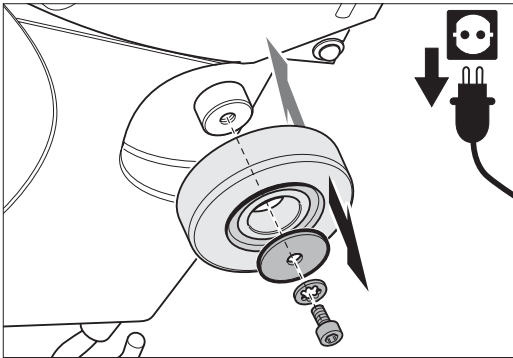

Fig. 48 Remove the screw with the washers in the centre of the wheel and remove the lateral wheel. Replace in reverse sequence.
- 3 Release the screw in the centre of the wheel and remove the screw and washers (Fig. 48).